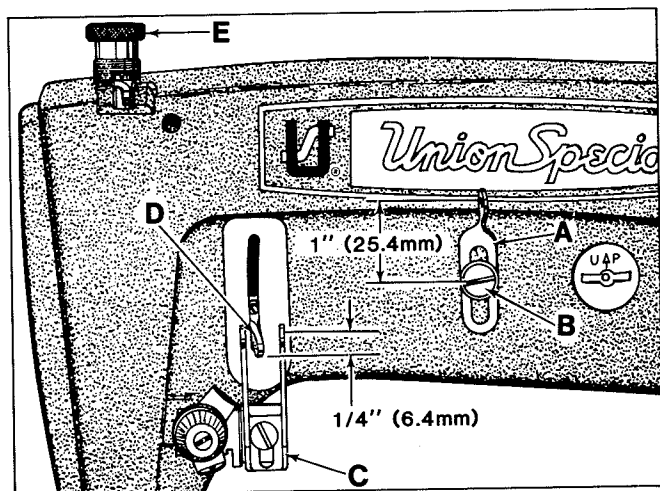

Fig. 18
Set the needle thread frame eyelet (A, Fig. 18) 1 inch (25.4mm) above the center of mounting screw (B).
The "U" shaped eyelet (C, Fig. 18) should be set to allow the spreader thread to engage the bottom of the needle lever eyelet (D) by 1/4 inch (6.4mm). Raising the eyelet makes a looser cover thread, lowering same makes a tighter cover thread.
Regulate the presser spring regulating screw (E, Fig. 18) so that it exerts only enough pressure on the presser foot to feed the work uniformly when a slight tension is placed on the fabric. Turning it clockwise increases the pressure, counterclockwise acts the reverse.